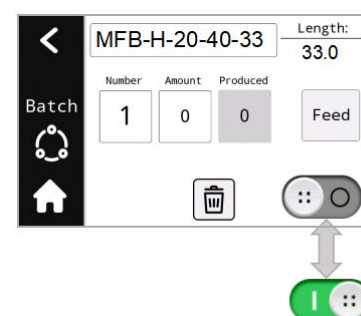

Figure 4
1) Tap  on the home page to enter the mode. (Figure 4)